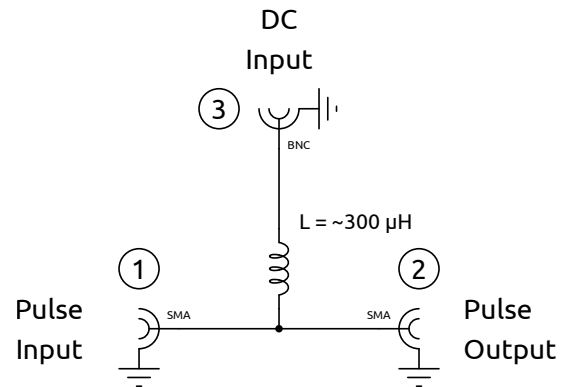

Figure 1: Simplified schematic diagram
The DCT-101500B is used for DC biased measurements of high voltage or power devices in the time domain (pulsed) or frequency domain (RF). In contrast to standard bias tees the DCT-101500B has no built-in DC blocking capacitor in order to allow DC injection (DC tapping) into (of) 50 Ω high voltage RF or high speed data transmission lines. SMA port 1 (IN) to SMA port 2 (OUT) is a impedance matched 50 Ω thru transmission line. Port 1 and port 2 are equivalent and can be exchanged. The –1 dB S21 bandwidth is 30 kHz to >8 GHz. At port 3 (DC IN) a DC voltage can be injected to port 1 and 2 or tapped from port 1 and 2. The maximum current through the inductor must not exceed 2 A DC and max. 10 A pulsed (thermal limited by the inductor). Fig. 1 shows the simplified schematic diagram.